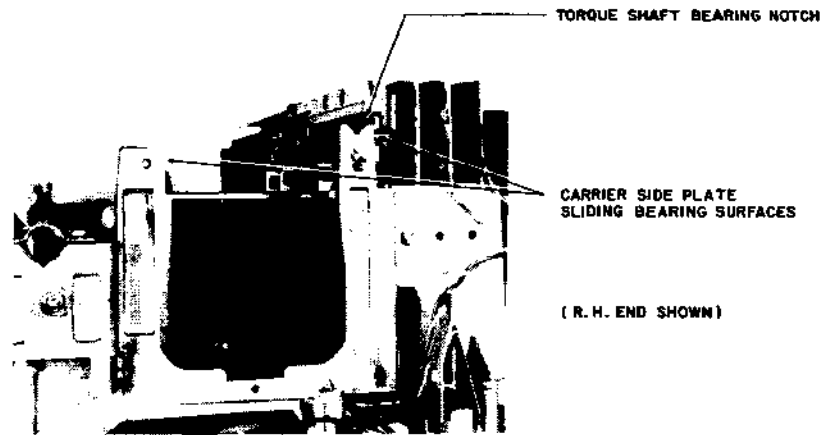

Figure 3-11. Carrier System Replacement
- (1) Clean all Carrier Subassembly bearing surfaces on the printer's main frame of old grease, etc. Apply a light coating of multipurpose grease to the points shown in Figure 3-11, on both ends of the main frame.